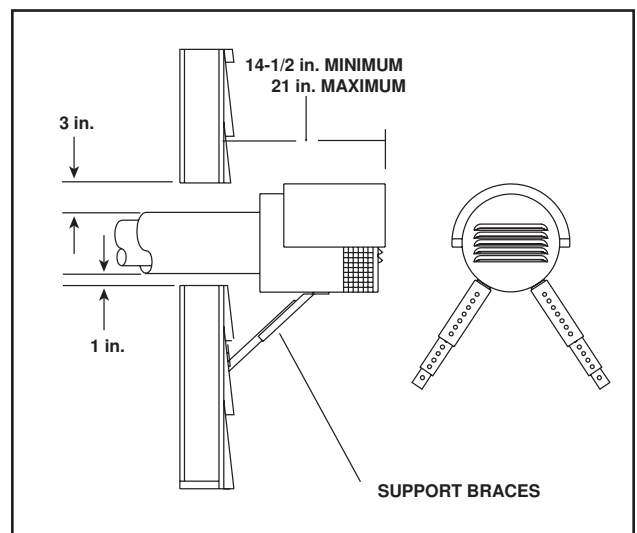

Figure 4.
5. The minimum distance from the outside wall to the end of the top shield of the PVK-80 horizontal cap is 14-1/2 inches. The maximum distance is 21 inches. See Figure 4.
- Two support braces are provided and **MUST** be used to mount the PVK-80 horizontal cap to the wall. Screw one end of each brace to the bottom of the cap housing, using the pilot holes in the cap. Extend each brace until it contacts the building wall and tighten the bolt/nut in the center of each brace. Fasten the other end of each brace to the outside wall. See Figure 4.